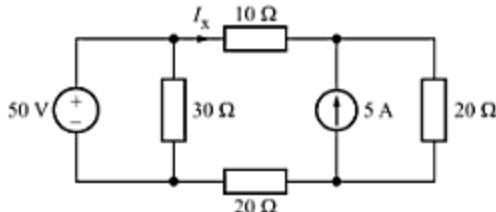

Fig. 4.35
- Determine the current  $I_x$  through the  $10\text{-}\Omega$  resistor in Fig. 4.35, using superposition theorem.